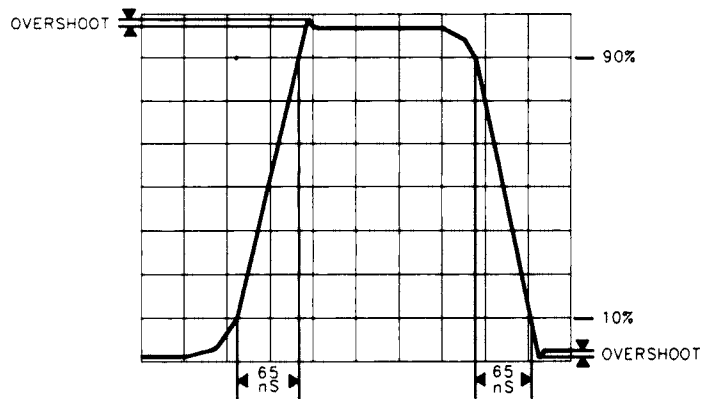

Figure 3-28.
18. Use the oscilloscope $\Delta t \Delta V$ markers to measure the risetime, falltime, and percent overshoot of the composite Xdeflection waveform. Rise and fall times should both be less than approximately 65 ns between the 10% and 90% points on the waveform. Overshoot should be less than 3% (approximately 0.25 divisions). See Figure 3-28.